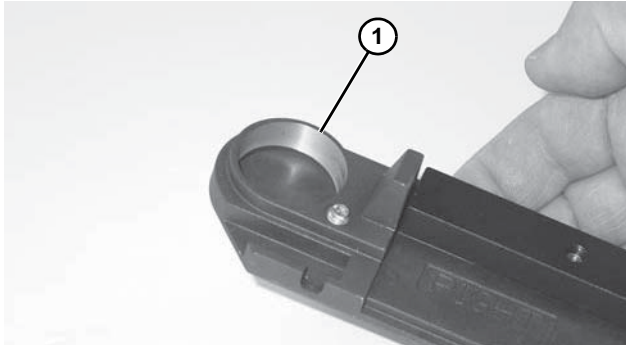

Figure 114
1. Inspect the head plates bearing seating surface (**Figure 114, item 1**). If they are worn or damaged, replace. See “Service Parts” on page 54.